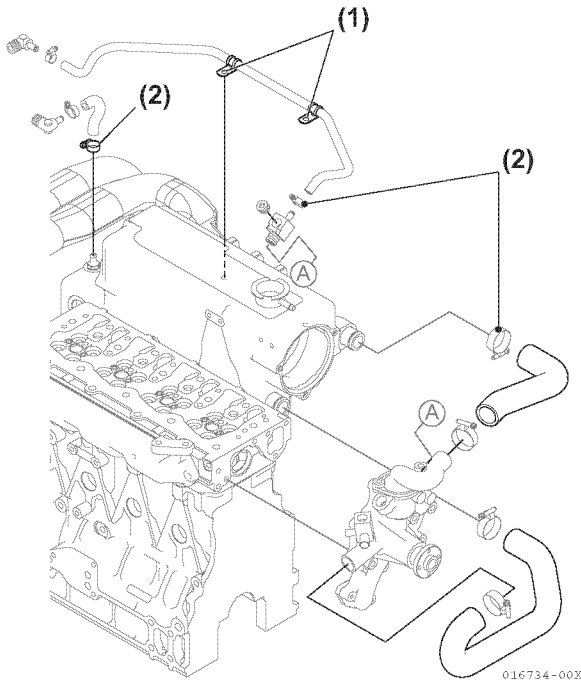

Figure 7-25
9. Install the heat exchanger assembly on the engine. Install and tighten bolts and clamps (**Figure 7-25, (1), (2)**).